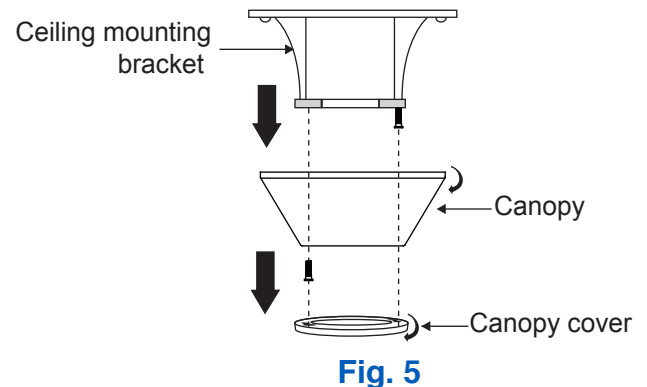

Fig. 5
**Step 1.** Remove the decorative canopy bottom cover from the canopy by turning the cover counterclockwise. (Fig.5)
**Step 2.** Remove the ceiling mounting bracket from the canopy by removing (and save) one of the two screws. Loosen the remaining screw by a half turn. (Fig.5)